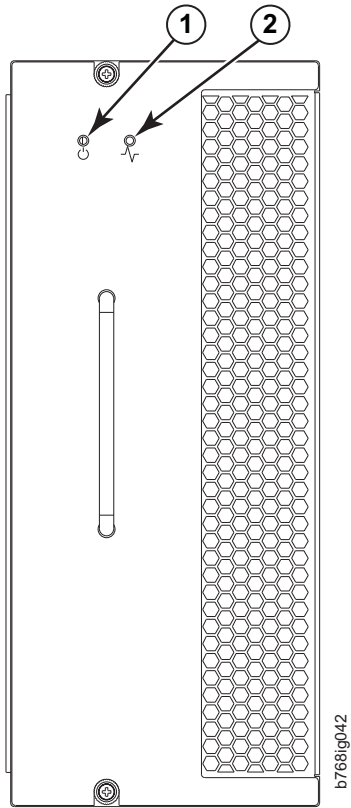

Figure 25. Blower assembly LEDs
1. Check the LED indicators on the blower assembly (see Figure 25 on page 74). The LED patterns may temporarily change during POST and other diagnostic tests; for information about how to interpret the LED patterns, see Table 10 on page 74. The system has three blower assembly modules. Be sure to check each module.